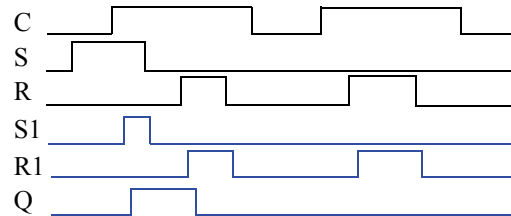

Figure 3.92
- 3.7 Trace the behavior of a level-sensitive SR latch (see Figure 3.16) for the input pattern in Figure 3.92. Assume S1, R1, and Q are initially 0. Complete the timing diagram, assuming logic gates have a tiny but non-zero delay.